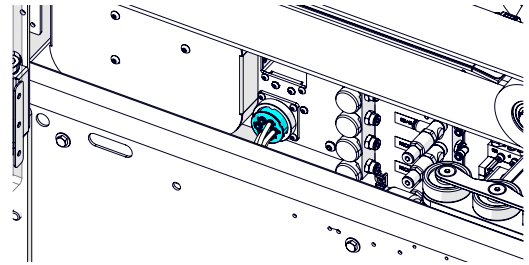

Figure 45: Bottom Pneumatic Disconnect
8. Disconnect the locking clamps on the electrical supply connector to remove it. (Figure 45 Yellow)
9. Unscrew the pneumatic multi-line connector. (Figure 45 Blue)